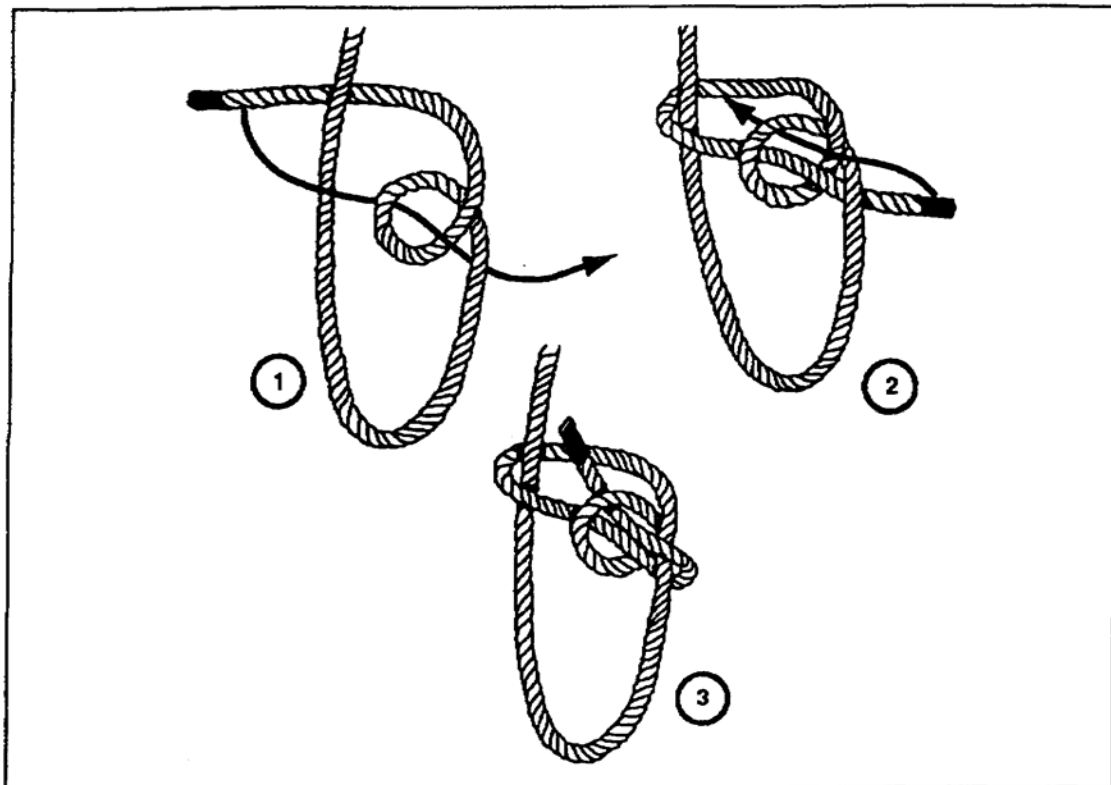

Figure 4-24. Running bowline
c. Running Bowline. The running bowline (Figure 4-24) forms a strong running loop. It is a convenient form of running an eye. The running bowline provides a sling of the choker type at the end of a single line. Use it when tying a handline around an object at a point that you cannot safely reach, such as the end of a limb.